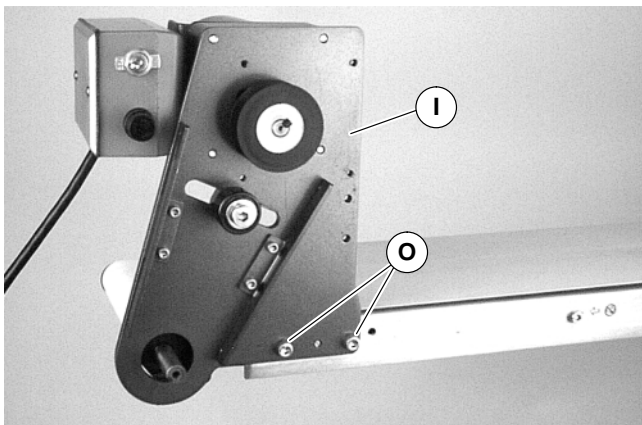

Figure 4
3. Attach mount assembly (I of Figure 4) with screws (O). Tighten screws to 9 Nm.